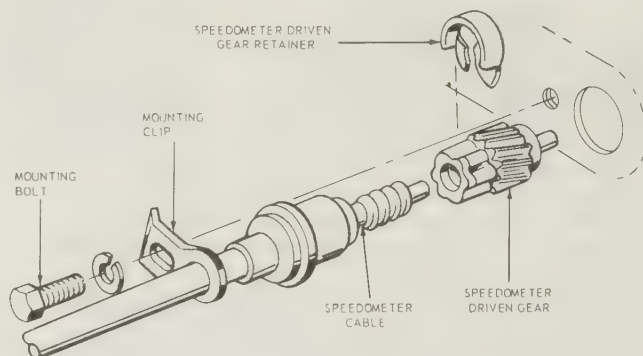

Fig. 10.28. Attachment of speedometer cable to transmission (Sec. 34)
- 4 Disconnect the cable from the transmission as described earlier in this Section and withdraw from under the car (Fig. 10.28).